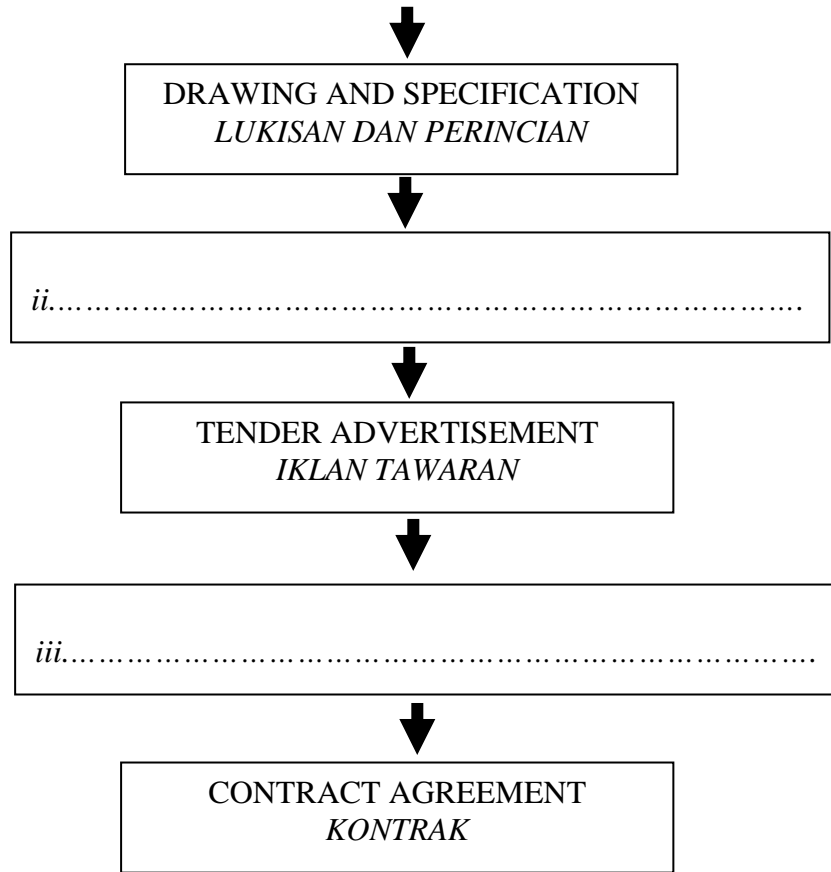

FIGURE 5
11. Figure 5 shows an incomplete flowchart of the construction planning stages before the construction activities start.